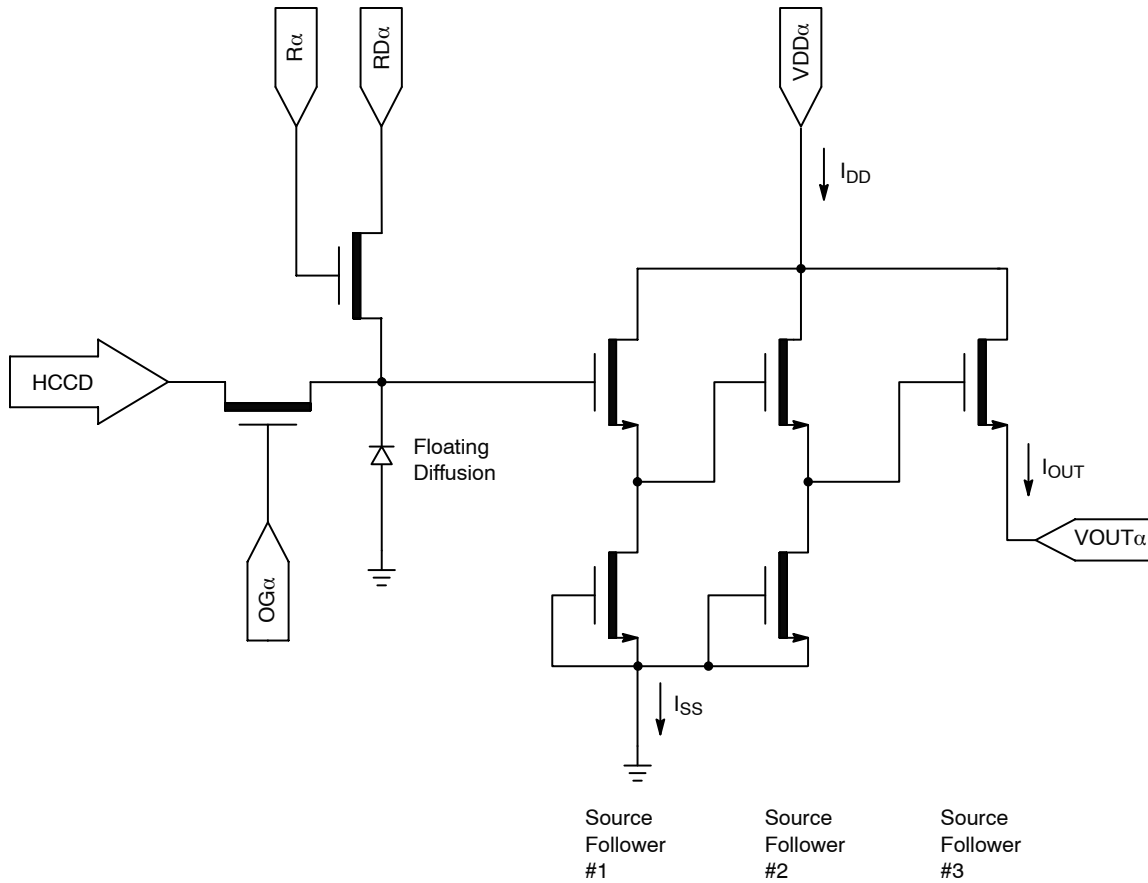

Figure 16. Output Amplifier
2. The maximum DC current is for one output. $I_{DD} = I_{OUT} + I_{SS}$. See Figure 16.